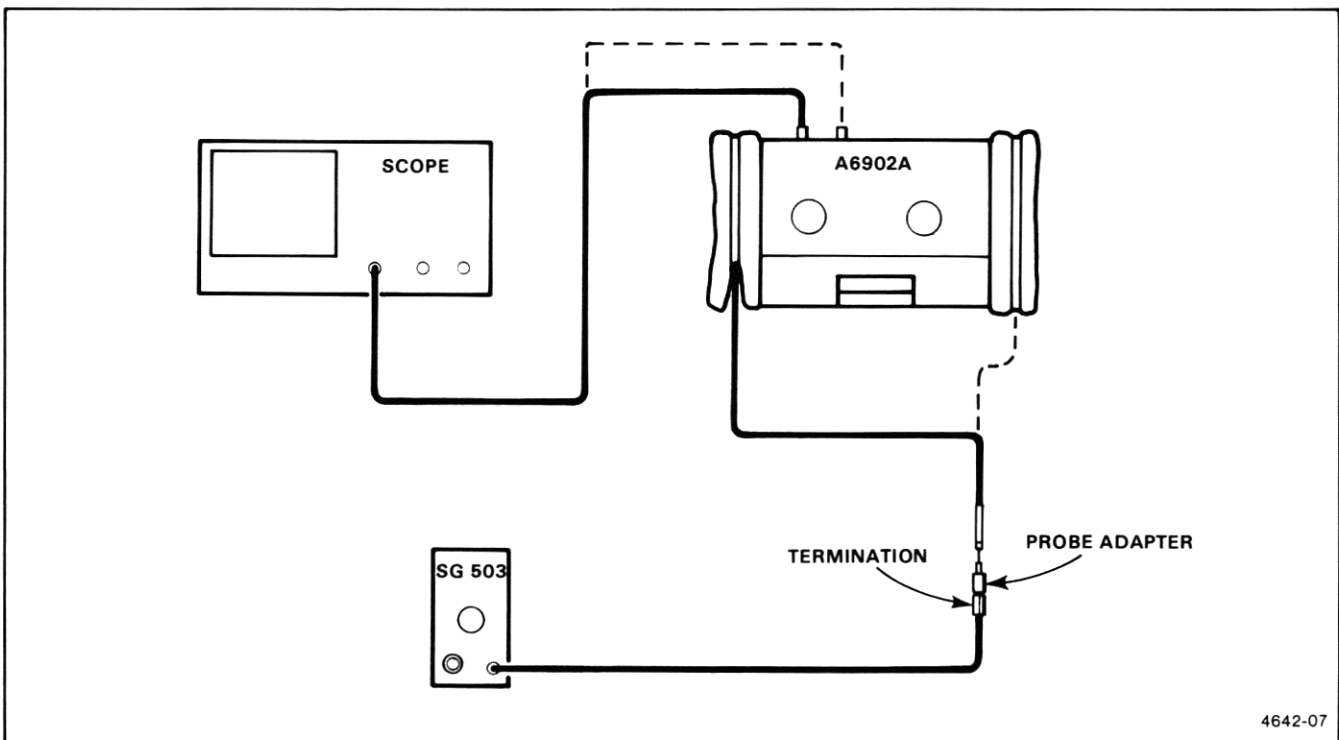

Figure 4-2. Bandpass check test setup.
b. Connect the test setup as shown in Figure 4-2, using the A6902A CHANNEL 1 connectors and 500-V Probes.